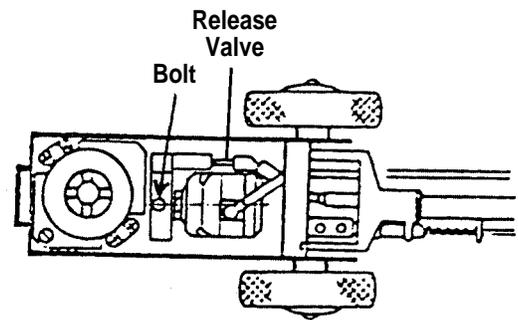

Figure 3
2. Loosen the bolt one-half turn. See Figure 3.